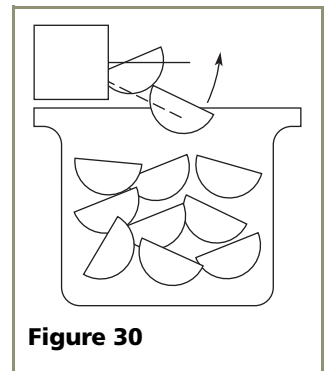

Figure 30
- The ice maker will continue to produce until the bin is full. You may interrupt production by raising the bin arm into an upright and locked position (see **Figure 30**). While the bin arm is locked, the unit will maintain temperature for ice storage.